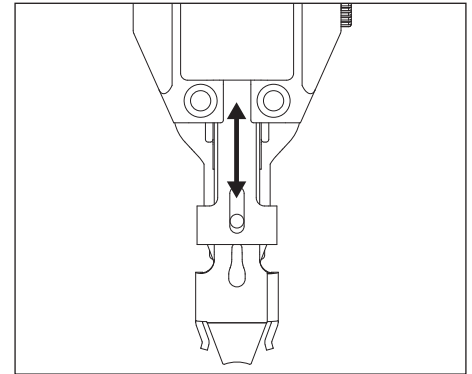

Figure 15
6. Manually push the work contact element up and down several times to distribute the oil in the drive cylinder evenly (see Figure 15).